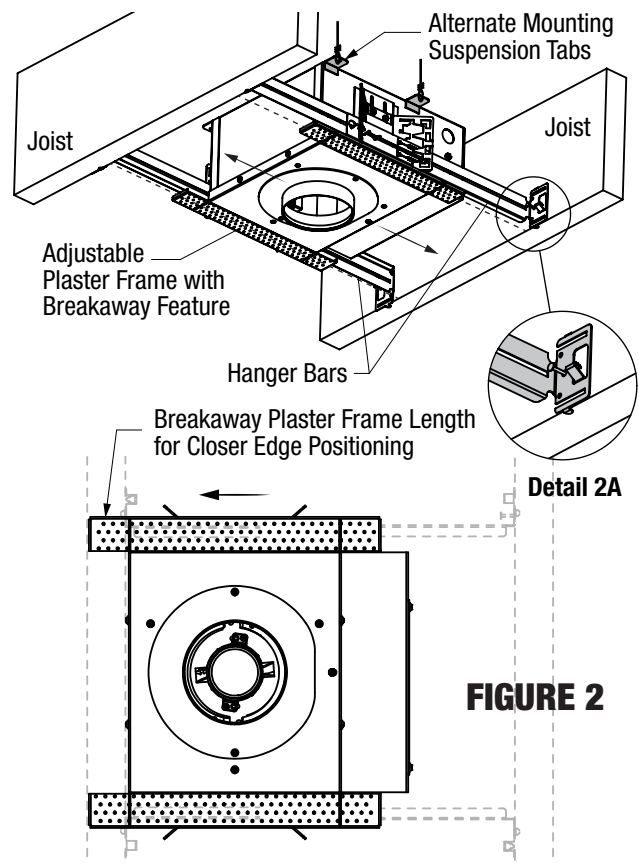

FIGURE 2
Step 1. Extend HANGER BARS to fit between joist and attach to joist or frame member using appropriate hardware for material. **See Fig 2, Detail 2A.**
Step 3. Position housing horizontally by sliding on hanger bars. Secure housing in position using wire tie downs. **See Fig 2.**